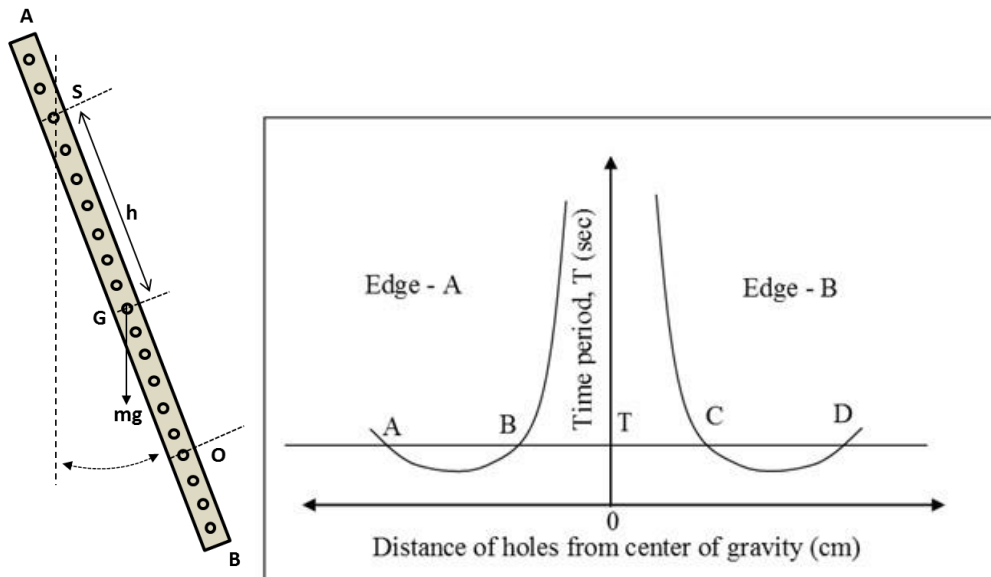

Figure 1: Demonstration of compound pendulum oscillations and corresponding time period vs distance graph.
In this experiment, we will determine the length L and corresponding time period T graphically [see Figure 1]. If we plot a graph using table (1), two curves symmetric about the position of COM should appear. Horizontal lines in the lower portion will intersect the curves in four points. l_1 and l_2 can be determined by measuring the distances from the COM position. Using eqns. (11) & (12), acceleration due to gravity g and radius of gyration K would be calculated.
7. Draw a graph T vs d for Edge A and Edge B observations as shown in the Figure 1.